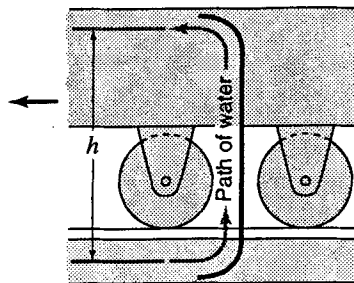

Figure P6.24
6.24 A locomotive tender running at 20 mph scoops up water from a trough between the rails, as shown in Fig. P6.24. The scoop delivers water at a height $h = 8$ ft above its original level and in the direction of motion. The area of the stream of water at entrance is 40 in². The water is everywhere under atmospheric pressure. Neglecting all losses, what is the absolute velocity of the water as it leaves the scoop? What force on the tender does the water cause? At what minimum speed will water rise to the height h above the original level?